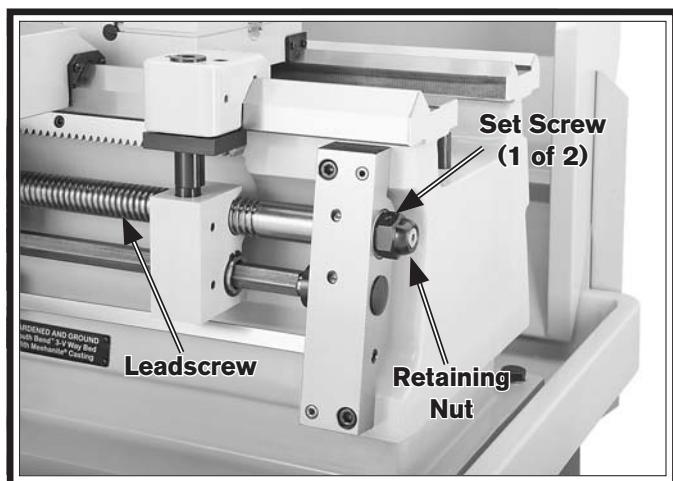

Figure 113. Leadscrew end play adjustment.
2. Loosen both retaining nut set screws (see **Figure 113**).